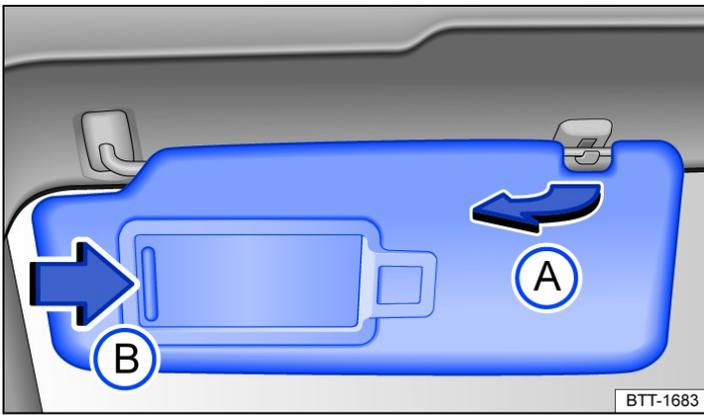

Fig. 1 Sun blind (left-hand side). The right-hand side is a mirror image.
- Pulled out of the bracket and swung over towards the door → Fig. 1 (arrow A).